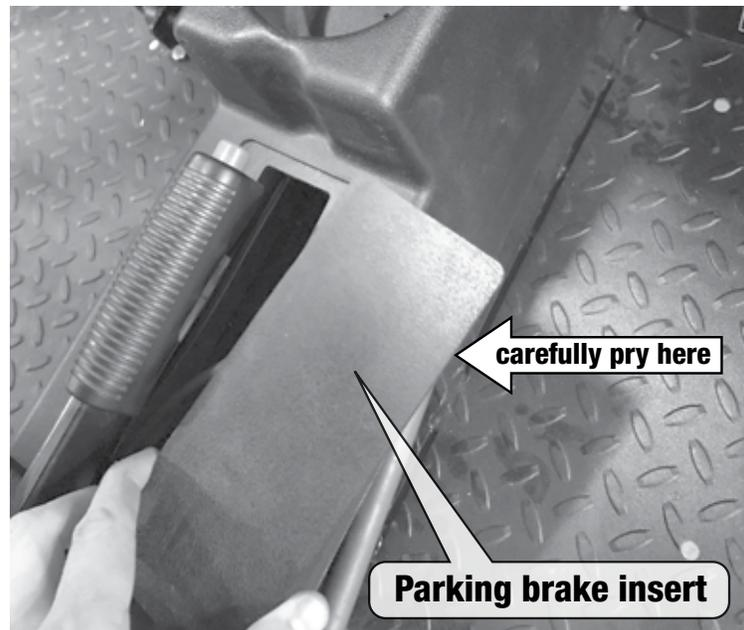

fig. 2
- 3** Using the flat head screw driver or pry tool, carefully remove the parking brake insert in the center console as shown in **figure 2**.